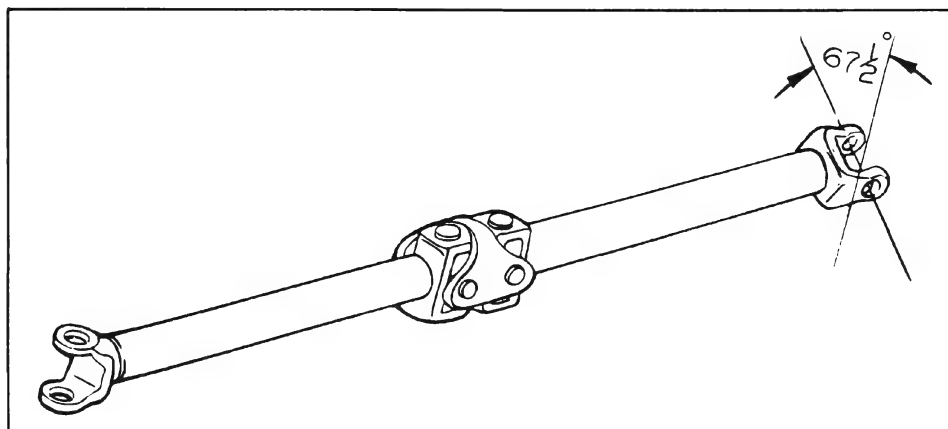

Figure 6-69—Propeller Shaft Phasing—4400-4600-4800 Series
2. Align the index spring with the missing internal spline in the rear end of the front propeller shaft, and slide the slip joint together. See Figure 6-69 for proper phasing of the propeller shaft.